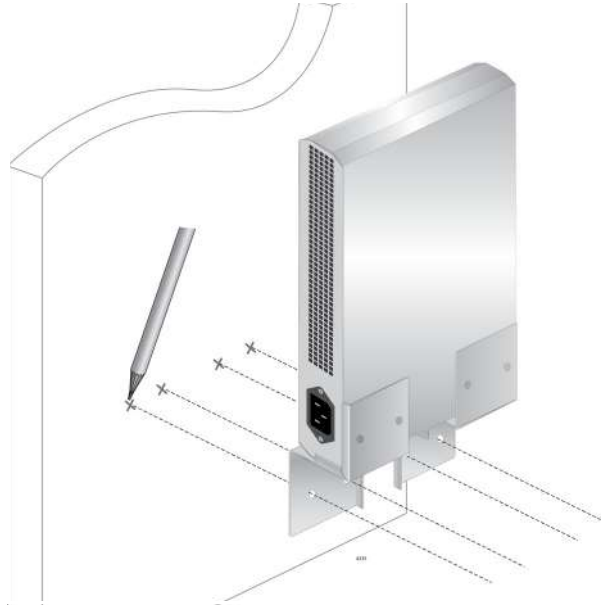

Figure 58. Marking the Screw Hole Locations
3. Have another person hold the switch with the brackets at the wall location where the switch is to be installed. Use a pencil to mark the wall with the locations of the four holes in the brackets. See Figure 58 as an example.